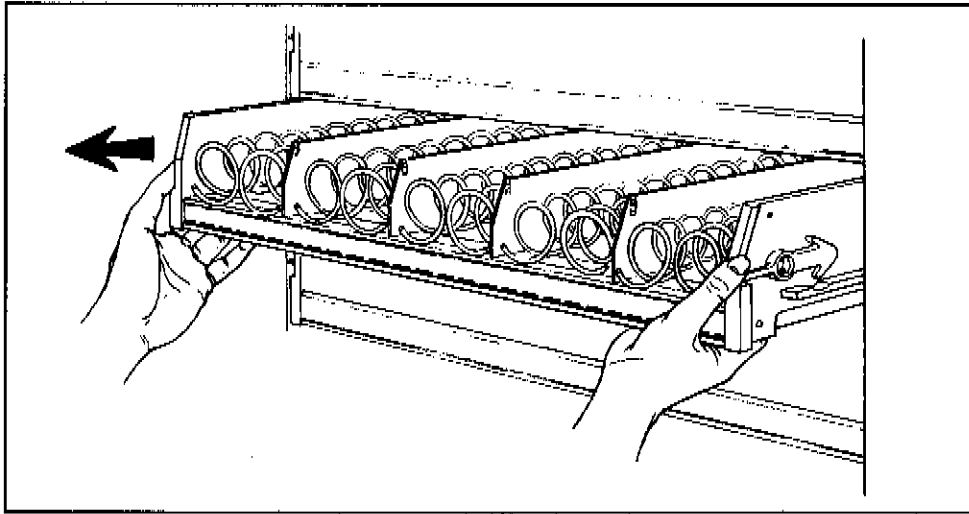

Figure S-1a
- * Place both hands on the Tray as shown in Figure S-1a.